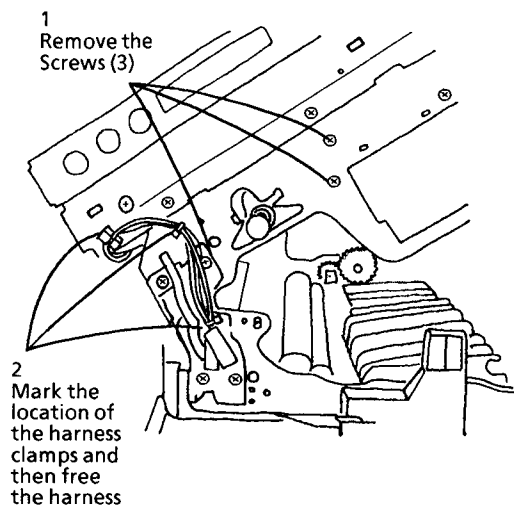

Figure 1. Removing the Screws
6. Remove the screws from the front frame and free the harness (Figure 1).